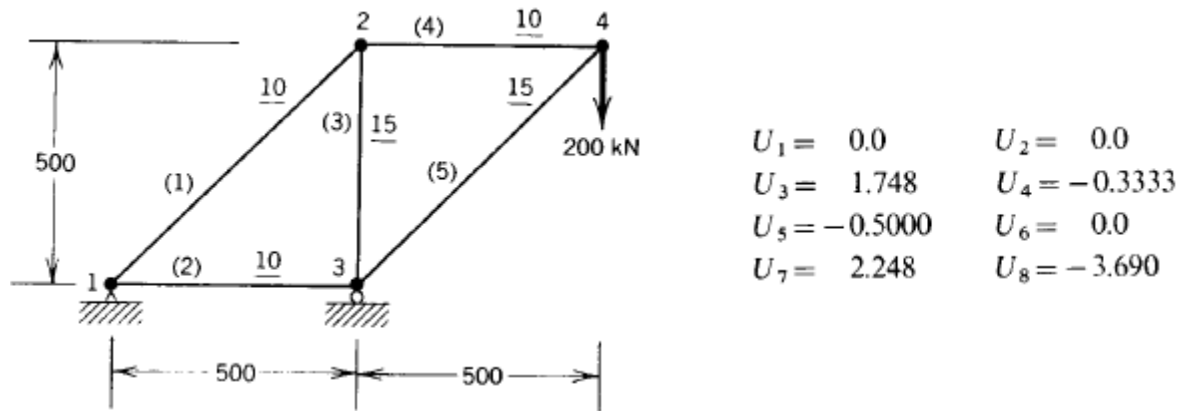

Figure P2.9
9. The displacements for the truss shown in **Figure P2.9** are given below. The cross-sectional area of each member in cm^2 is underlined. Each member is made of steel, $E = 20 \times 10^6 \text{ N/cm}^2$. All lengths are given in centimeters. Calculate the axial force in each member.